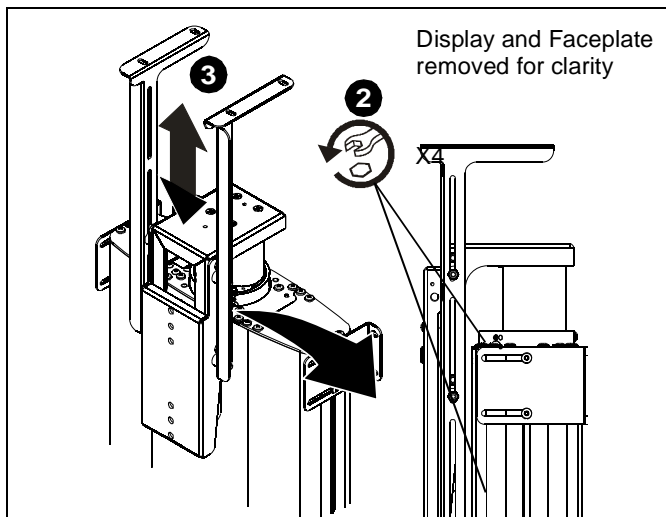

Figure 12
3. Slide shelf adjustment brackets upward until top of brackets are positioned higher than top of display. (See Figure 12)